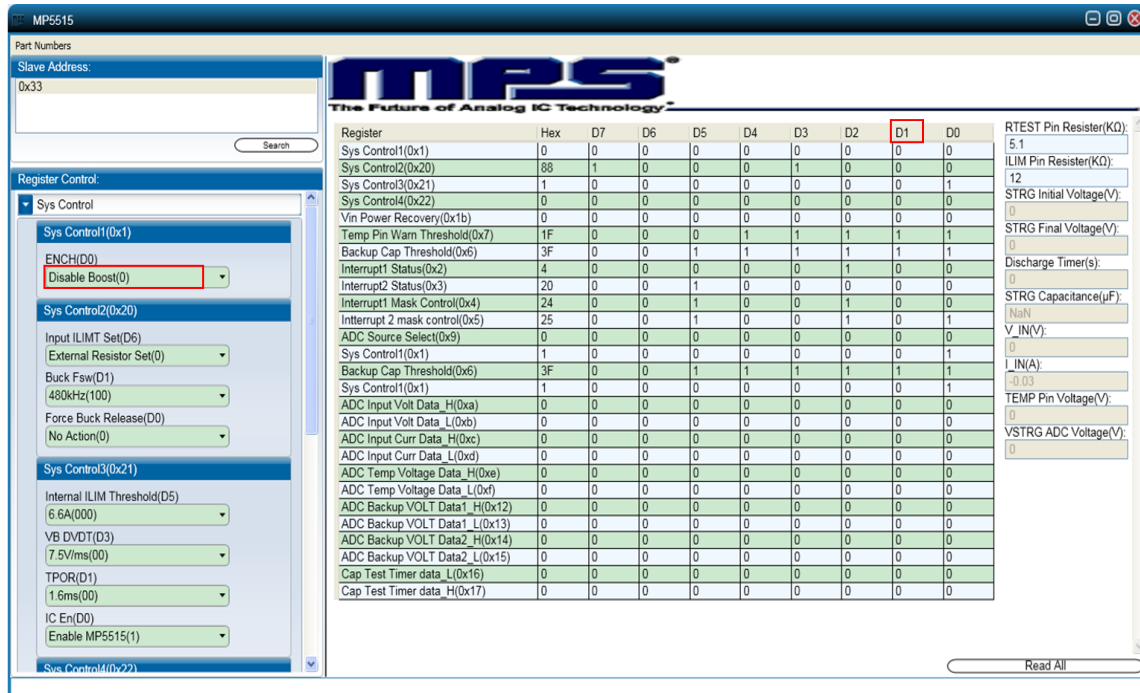

Figure 11: Refer to Datasheet to Translate 0's and 1's
- Click the **Read All** button to update values. The changed information of the item will appear on the right side (see Figure 11).